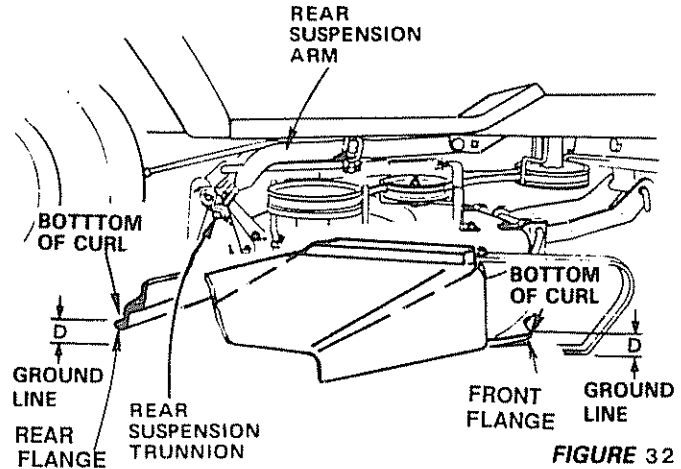

FIGURE 32
- To obtain the best cutting results, your mower housing should be adjusted so the front and rear flange distance "D" (Fig. 32) is 1/2" lower in front when the mower is positioned in the highest cutting position. NOTE: MEASURE DISTANCE "D" FROM GROUND LINE TO BOTTOM OF CURL ON RIGHT REAR FLANGE AND COMPARE TO DISTANCE "D" AT BOTTOM OF CURL ON RIGHT FRONT FLANGE.